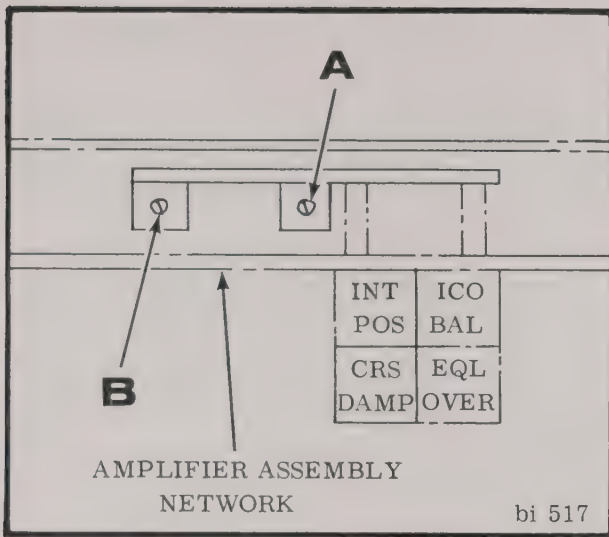

FIGURE 7-4 LIMITER ADJUSTMENT
NOTE: Refer to Figure 7-4 and rotate potentiometers (A & B) to full counterclockwise position.
o. Limiter Adjustment (Fig. 7-4)
1. Turn potentiometer (A) to full counterclockwise position.
2. Turn potentiometer (B) to full clockwise position.